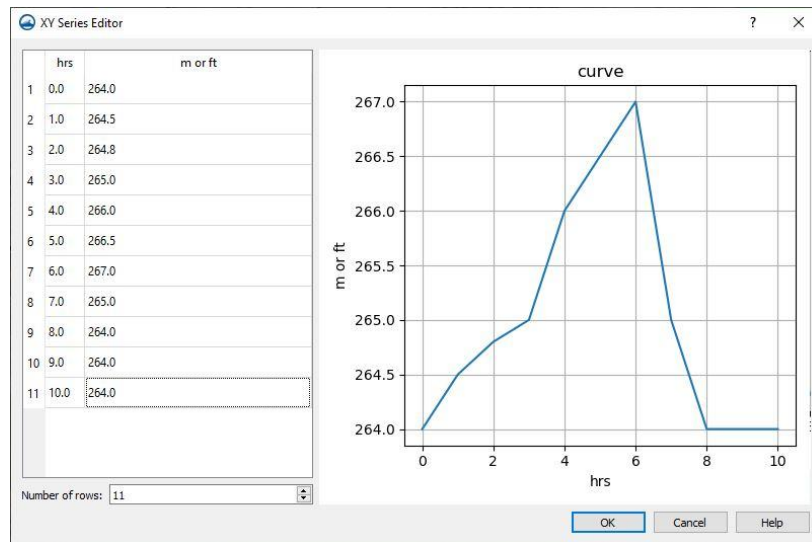

Figure 5 Variable WSE plot in the *XY Series Editor* dialog
12. Copy the values from the *Elevation (m)* column in the “VariableWSE.xls” file to the *m or ft* column in the *XY Series Editor* dialog. The plot should appear as in Figure 5.